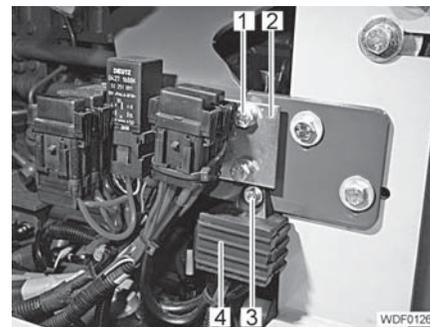

Fig. 50 Relay, fuses and junction box
- Position the junction box (Fig. 50,4) and screw in and tighten the screw (Fig. 50,3).
- Carefully position and adjust the plate with fuses and relay (Fig. 50,2).
- Screw in and tighten the 2 screws (Fig. 50,1).